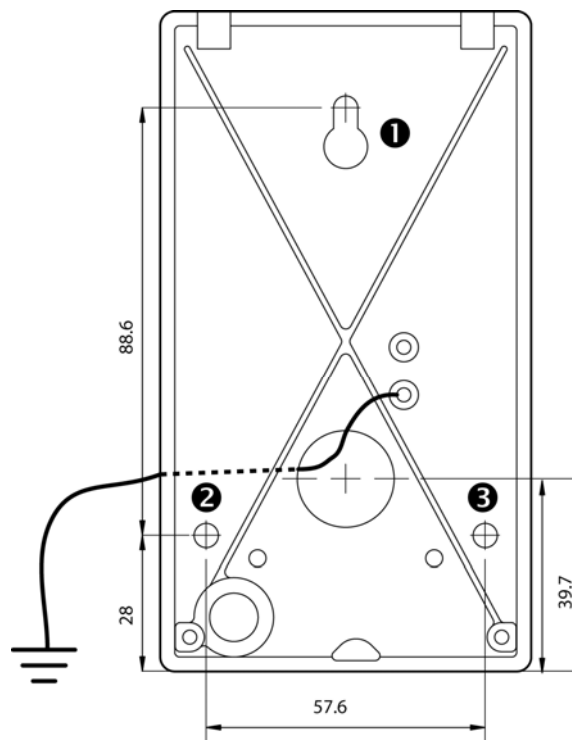

Fig. 1 PP500 back plate. Dimensions in mm.
2. Fasten the back plate against the wall, using three screws **1**, **2** and **3** according to figure 1. Seal the screw and cable holes with sealant if the reader is externally mounted.